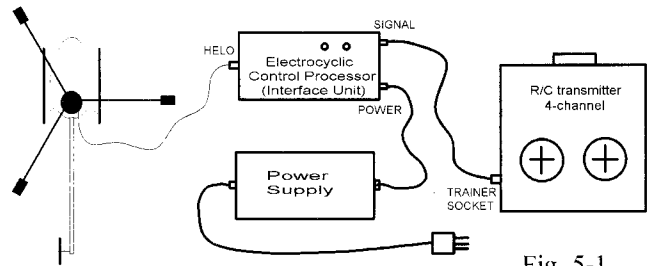

Fig. 5-1
Once you have the right lead, the equipment should be connected up as in Fig. 5-1, with the exception of the Hoverfly itself, which should not be connected yet.
i) Begin by connecting everything up as in Fig. 5-1, **with the exception of the Hoverfly itself, which should not be connected yet.** Switch everything on, and check that the green Signal light illuminates on the ECP. Now switch off the power to the ECP, but leave the transmitter on.
i) Connect everything up as in Fig. 5-1, **with the exception of the Hoverfly itself, which should not be connected yet.**
i) Connect up the equipment as in Fig 5-1. Turn on the transmitter, and set all the trim tabs to their central positions. Set the collective stick to the zero position, which will normally be fully towards you. Plug in the power supply, but DO NOT turn on the mains yet.